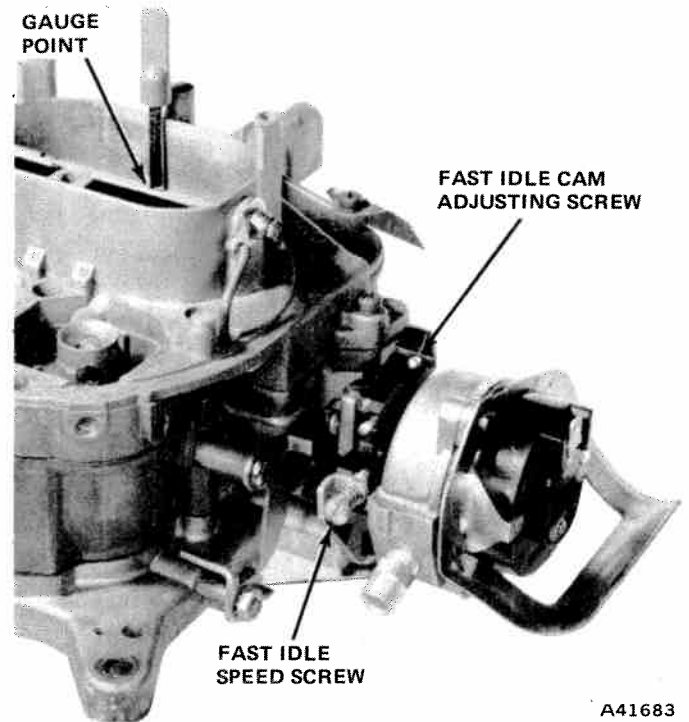

Fig. 4-73 Fast Idle Cam Linkage Adjustment
(1) Rotate the choke cover 1/4-turn counterclockwise (rich) and tighten the retaining screws.
(2) Operate the throttle to allow the choke valve to close completely.
(3) Push down on the fast idle cam counterweight until the screw is in contact with the second step (index) and against the shoulder of the high step.
(4) Measure the clearance between the lower edge of the choke valve and the air horn wall (fig. 4-73). Refer to Carburetor Service Specifications for the correct setting.
(5) Adjust by turning the fast idle cam adjusting screw.
(6) Loosen the choke cover retaining screws and adjust the choke as outlined under Automatic Choke Adjustment.